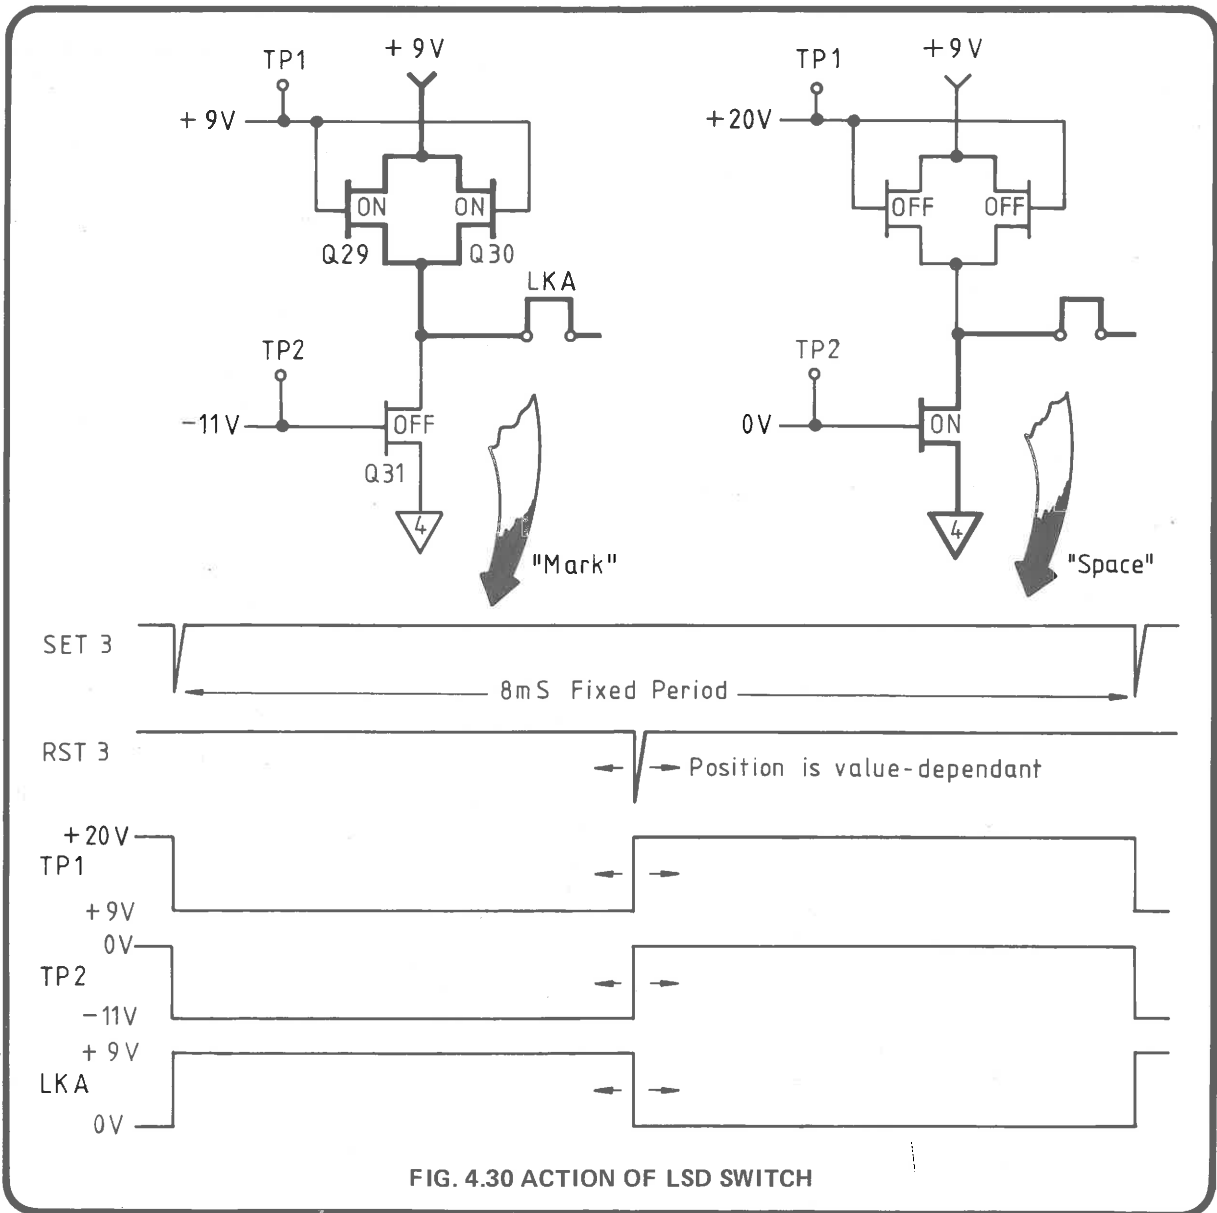

FIG. 4.30 ACTION OF LSD SWITCH
4.6.6 Least-Significant-Digits Switching (Fig. 4.30)
$\overline{\text{SET}}\ 3$ and $\overline{\text{RST}}\ 3$ pulses from the LSD Comparator in the Analogue Interface Assembly are transferred to guard via pulse transformers T1 and T2, whose centre-tapped secondaries are balanced about 0V (T1) and +9V (T2). Q5-Q7 form a fast bistable using emitter-coupled logic, to switch TP1 between +9V (mark) and +20V (space). During the "Mark" time after SET 3 pulse, Q29 and Q30 are switched ON, connecting LKA to +9V Ref. During the "Space" time after RST 3 pulse, Q29 and Q30 disconnect LKA from +9V Ref. Q1 – Q4 have the same fast bistable action, Switching Q31 off during the "Mark" period by -11V at TP2, disconnecting LKA from common-4 (0V); and on during the "Space" period, connecting LKA to common-4 (0V). Fig. 4.30 demonstrates this action.